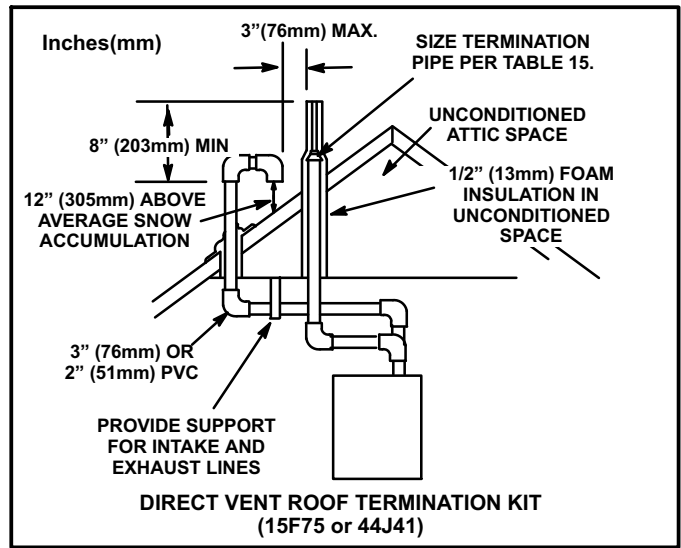

FIGURE 32
Intake and exhaust pipes may be routed either horizontally through an outside wall or vertically through the roof. In attic or closet installations, vertical termination through the roof is preferred. Figures 32 through 39 show typical terminations.
3. On roof terminations, the intake piping should terminate straight down using two 90° elbows (See figure 32).